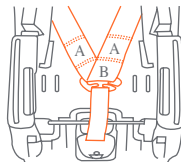
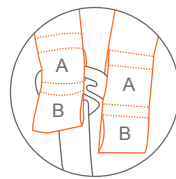

Fig. 31-2
Fig. 31-3
8. Reassemble the Harness Straps to the Belt Adjuster Plate. Do the left Harness Strap first, followed by the right Harness Strap. Check that Harness Straps are completely within the Belt Adjuster Plate loop (Fig. 31-2). You have two adjustment positions on the harness. Use Position A for a smaller child, and Position B for a larger child. If using Position A, loop B must be on top of the Belt Adjuster Plate (Fig. 31-3).